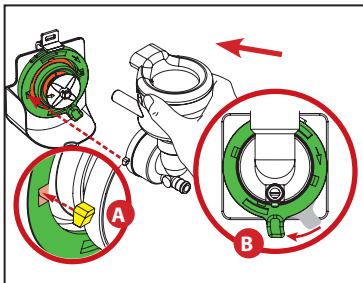

Fig.4
3. Turn the mounting plate clockwise until the mixer holes are aligned to the 3 o'clock and 9 o'clock positions. Align the guide hooks on the mixer bowl and insert them through the plate and into the chassis (A). Finally, lock the mixer bowl in by rotating the mounting plate clockwise until it completely stops turning and the tab is at the Lock position (B). (See Fig.4)
4. Replace the tube on the mixer bowl (C), and snap the outlet nozzle on the mixing tray.